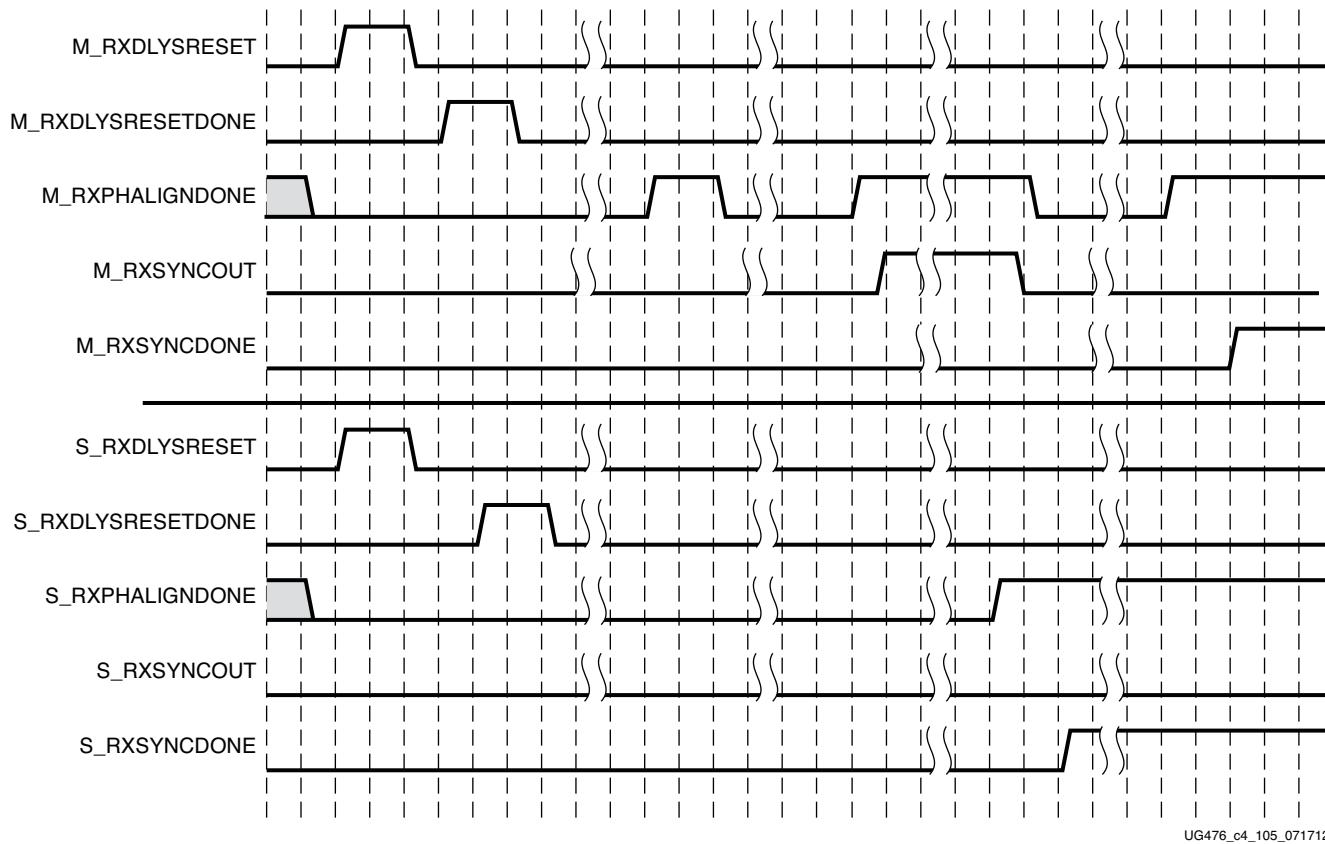

Figure 4-48: RX Buffer Bypass Example—Multi-Lane Auto Mode (GTH Transceiver Only)
Figure 4-48 shows the required steps to perform auto RX phase and delay alignment.
Notes relevant to Figure 4-48:
1. The sequence of events shown in Figure 4-48 is not drawn to scale.